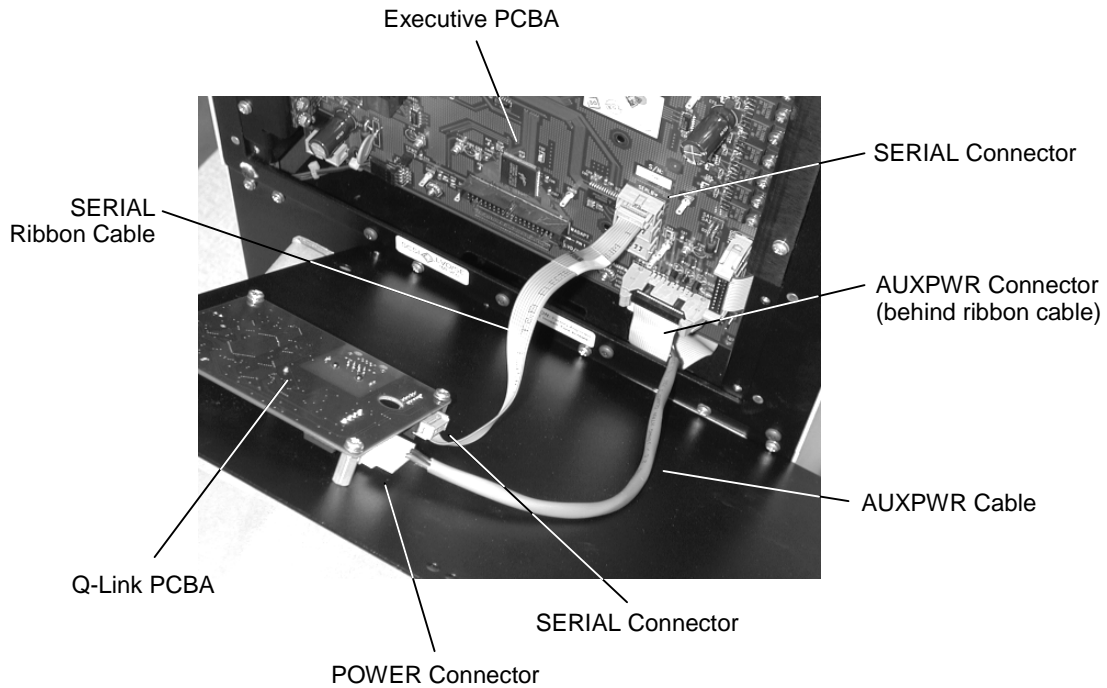

Figure 7-79 Detail of AUXPWR and SERIAL Cable Connections on Q-Link PCBA
3. Disconnect the AUPWR cable from the POWER connector on the Q-Link PCBA as shown in Figure 7-79.
4. Disconnect the SERIAL ribbon cable from the SERIAL connector on the Q-Link PCBA as shown in Figure 7-79.
1. Connect the AUPWR cable to the POWER connector on the Q-Link PCBA as shown in Figure 7-79.
2. Connect the SERIAL ribbon cable to the SERIAL connector on the Q-Link PCBA as shown in Figure 7-79. Make sure that the colored edge of the ribbon cable faces to your right side when the cable is installed.